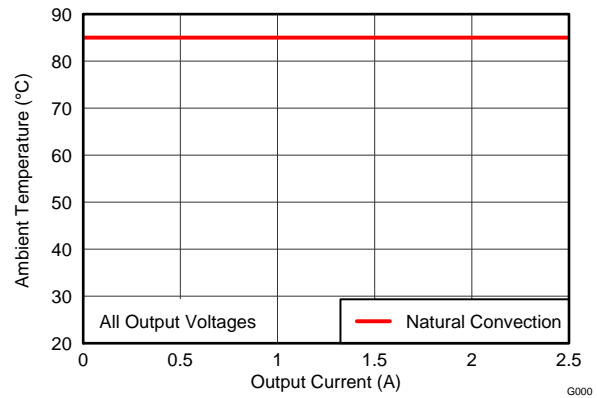

Figure 10. Safe Operating Area
- (3) The temperature derating curves represent the conditions at which internal components are at or below the manufacturer's maximum operating temperatures. Derating limits apply to devices soldered directly to a 100 mm x 100 mm double-sided PCB with 1 oz. copper. Applies to Figure 10.